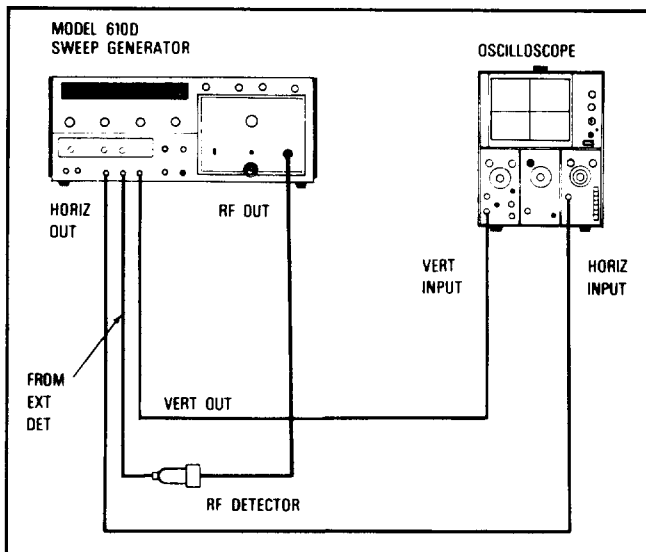

Figure 5-9. Test Setup for Frequency Tests and Adjustments
- a. Connect equipment as shown in Figure 5-9.